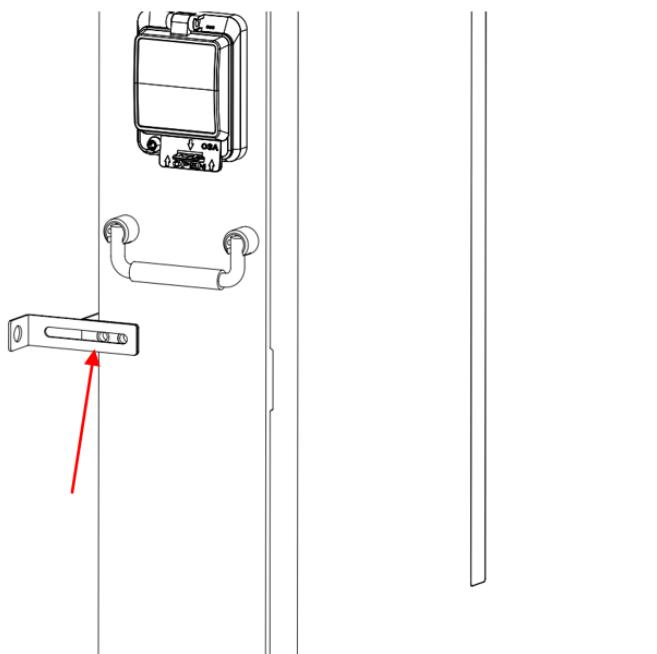

Figure 5-6
h) Adjust the left and right screws to the appropriate position to ensure that the battery is perpendicular to the ground, The left and right movement distance of the battery pack is 15.5~54mm, the nearest distance from the wall is 15.5mm, and the furthest distance from the wall is 69.5mm.as shown in Figure 5-6.